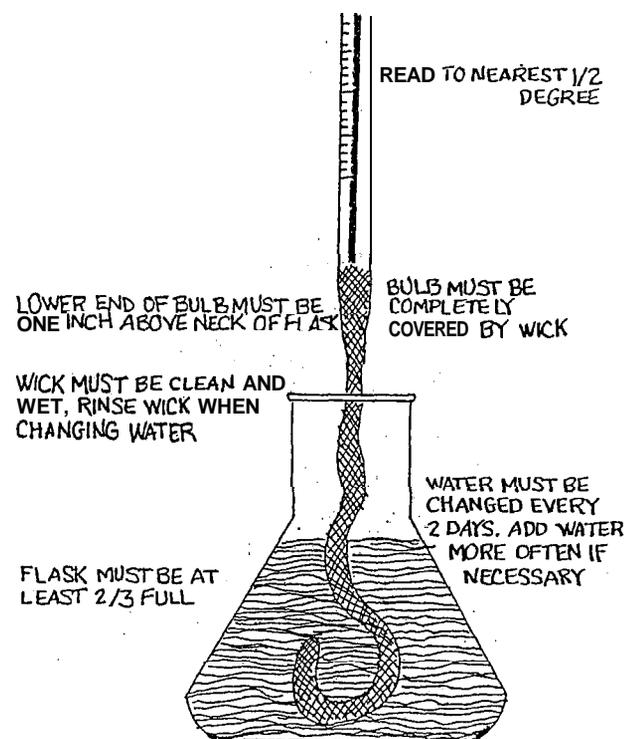

Figure 3. --Wet Bulb Thermometer.
(1) The wick consists of a white shoelace with the tips cut off. The shoelace must be of cotton, as other fabric will give false readings. One end surrounds the bulb of the mercury thermometer. The other end is immersed in water contained in a small flask suspended from the same horizontal arm.
(2) The wick should be rinsed with fresh water every 2 days, and the water in the flask replaced with fresh water every 2 days. Each week the wick should be washed with soap and water, then rinsed thoroughly.
(3) The wick surrounding the bulb should be thoroughly wet, but the bulb must be 1-inch above the mouth of the flask and freely exposed to the air.
(4) See figure 3 of this enclosure.